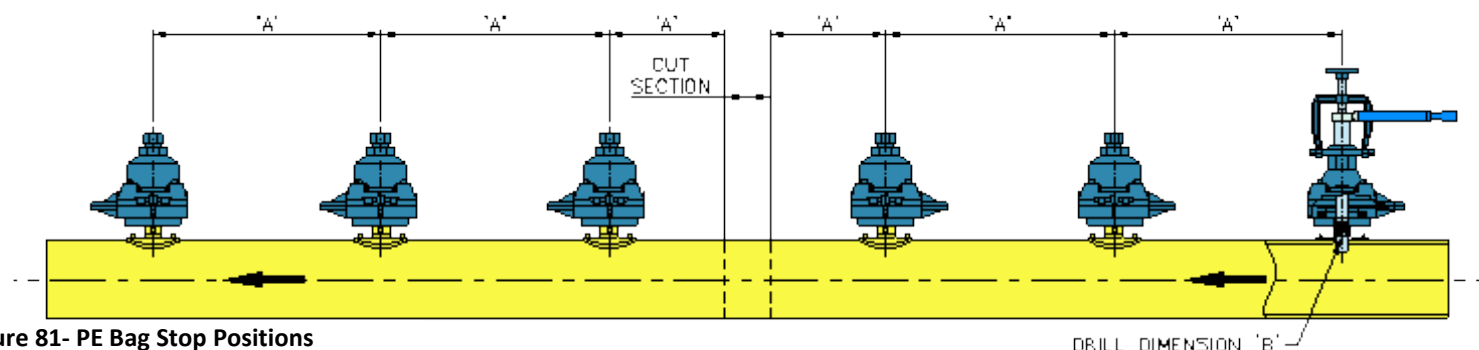

Figure 81- PE Bag Stop Positions
1. This procedure is the same as that contained within Section E3, Metallic flow stopping up to and including 300mm/12" diameter in Ductile Iron, Cast Iron and Steel mains by the use of semi-supported bags with the following difference see Figure 81.
The dimensions and pressures stated in Figure 81 and Table 35, Table 36, must be followed.
12. Refer to Figure 81 and mark the positions of the drillings.